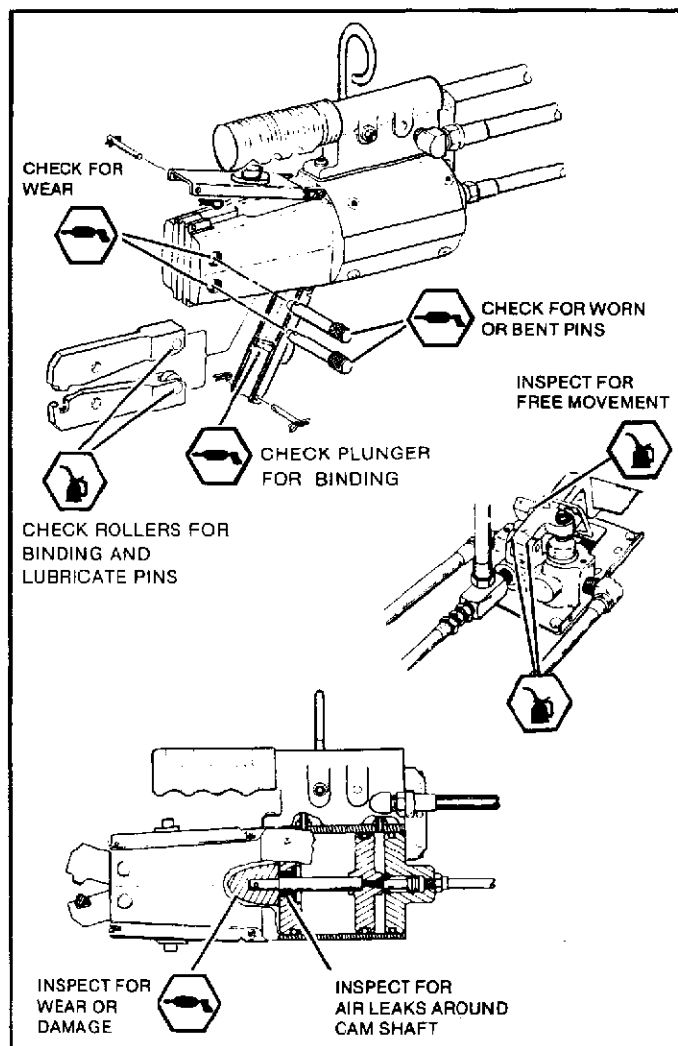

Figure 3-1
3.2.2 Visual Inspection (Monthly) Refer To Figure 3-1
It is important that the tool is lubricated at regular intervals to ensure minimum wear and dependable service. The following symbols are used to indicate the area to be lubricated and the type of lubricant to be used. See Figure 3-1.